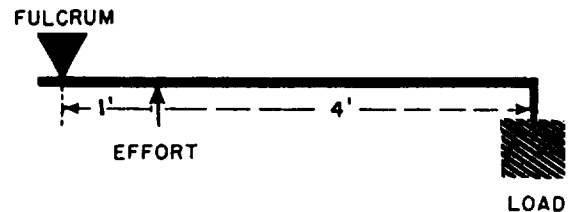

Figure 1B
IN ANSWERING QUESTIONS 1-12 THROUGH 1-14, SELECT THE CORRECT ARM MEASUREMENTS FROM FIGURES 1B AND 1C.
- 1-12. Effort arm in figure 1B
- 1-13. Resistance arm in figure 1B